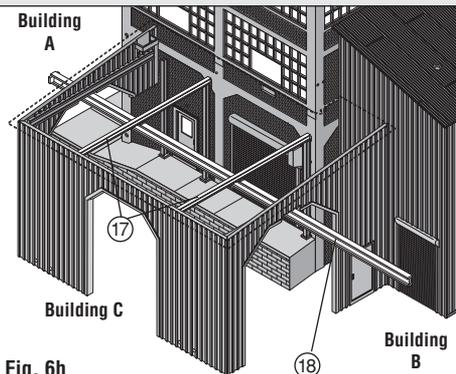

Fig. 6h
- Align I-Beams 2x (17) on Building C with placement holes on Building A and snap into place (Fig. 6h). Apply glue on tabs on inside of buildings.
- Align Beam (18) in guides on I-Beams 2x (17) and glue in place (Fig. 6h).